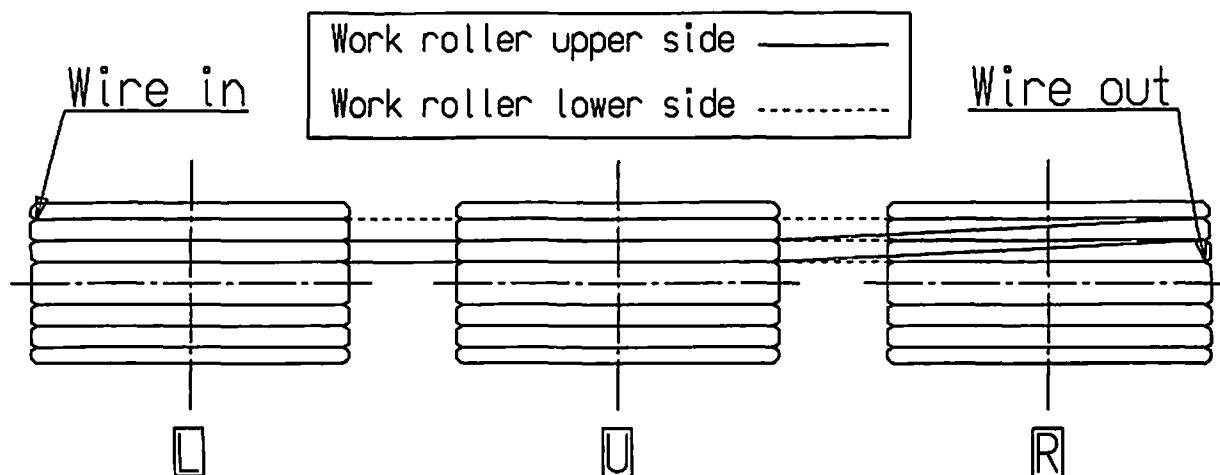

Fig.8-7 Work Roller Unit
(3) Wire Winding
After completing the procedure above, install the wire referring to "8-4-(2) Wire Winding". However, see Fig 8-7 for winding wire on the work rollers, that is, hang the wire vertically against the work rollers under the rollers, whereas diagonally on the top of the rollers. (It is possible to use both side of third added work roller)